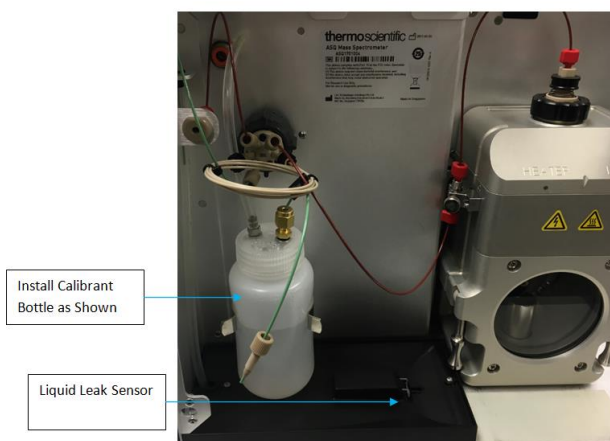

Figure 53: Location to install internal calibrant
- 2) Unscrew one of the labeled calibrant bottles and attach to existing cap located on the instrument as shown in *Figure 53*.